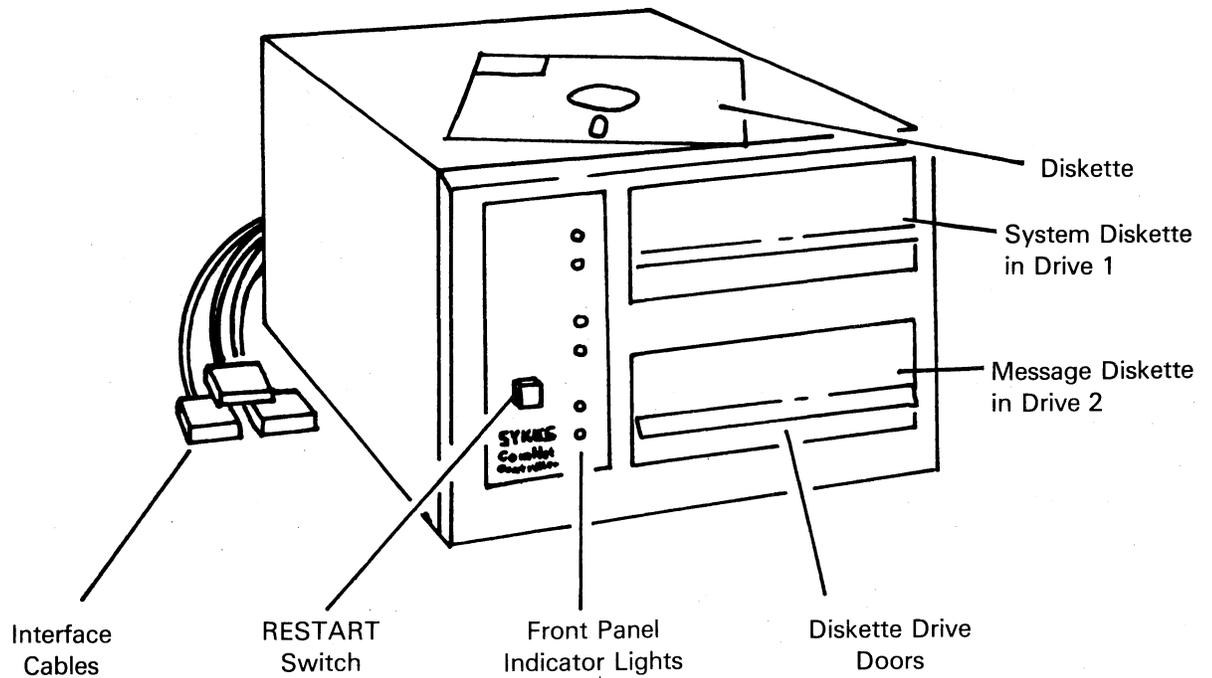

Fig. 2—Front View of the Comm-Stor II LCU
allow the operator to perform a visual lamp test. The function of each indicator is described below (Figure 2).
**6.09** The drive doors (Figure 2) of all Comm-Stor II LCU's are equipped with an interlock which prevents them from closing unless a diskette is fully inserted.